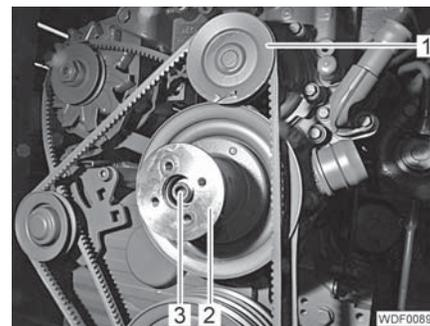
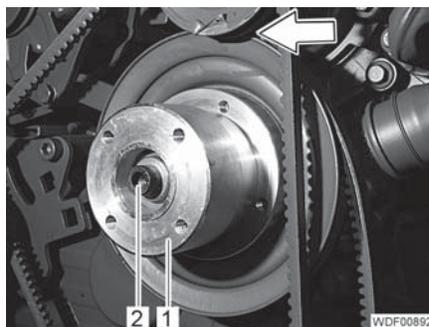

Fig. 30 Fan wheel flange attachment (Deutz)
Fig. 31 Fan wheel flange attachment
- Unscrew the screw (Fig. 30,3).
- Remove the fan wheel flange (Fig. 30,2).
- Place the new fan wheel flange (Fig. 31,1) into position in such a way that it lies between the belt pulley (Fig. 30,1) and the engine.
- Screw in and tighten the screw (Fig. 31,2) with the washer.